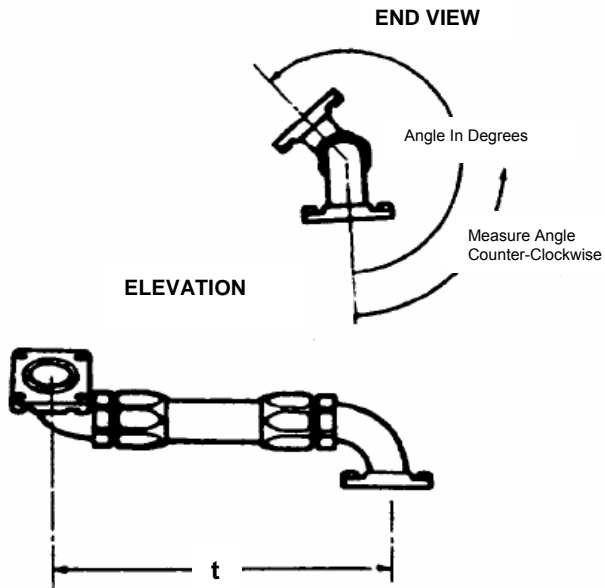

Figure 1. Elevation View Hose Assembly
(1) A relative position angle 0° is specified 000. In all cases, angle is expressed in 3 digits.
(2) Elevation view (Figure 1) shows right end of hose assembly placed in front and in the vertical plane and the left end placed behind it.
- c. Hose size (ID) is expressed alphabetically, Table 2.